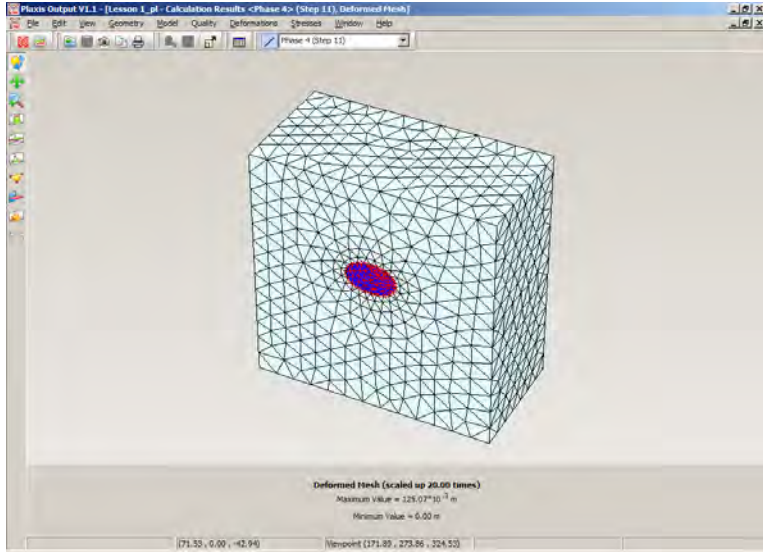

Figure 1.22 The deformed mesh
- Double click the *Preview / Results* item in the *Phase 4* subtree and make sure that the option *Results* is selected in the *Mode type* combo box. Click the *Output* button to open the results of phase 4. The deformed mesh will now be shown (see Figure 1.22).